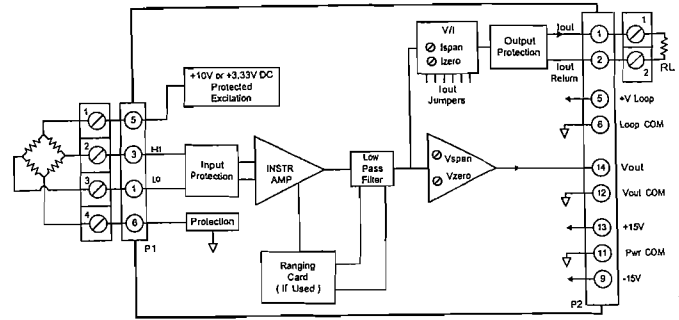

Figure 2.1.7.1 3B18 Functional Block Diagram
1. Connect model 3B18 as shown in Figure 2.1.7.1 with  $R_L = 250\Omega$ .